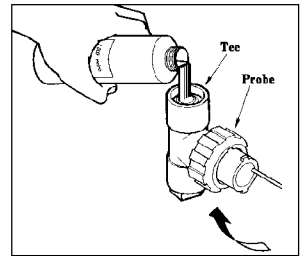

FIGURE 19
2. Install sensor into the CALKIT tee (see fig. 19). Rinse with and then refill with Low Cal solution.